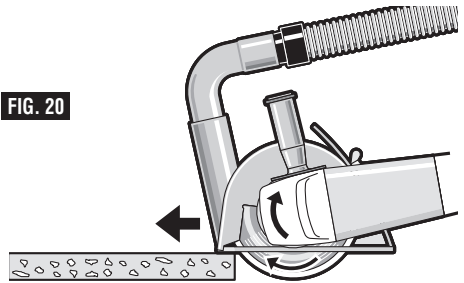

FIG. 20
4. Slide the tool forward at a moderate speed adapted to the material being cut. Always cut towards the dust extraction port to maximize dust extraction and reduce likelihood of kickback (Fig. 20).